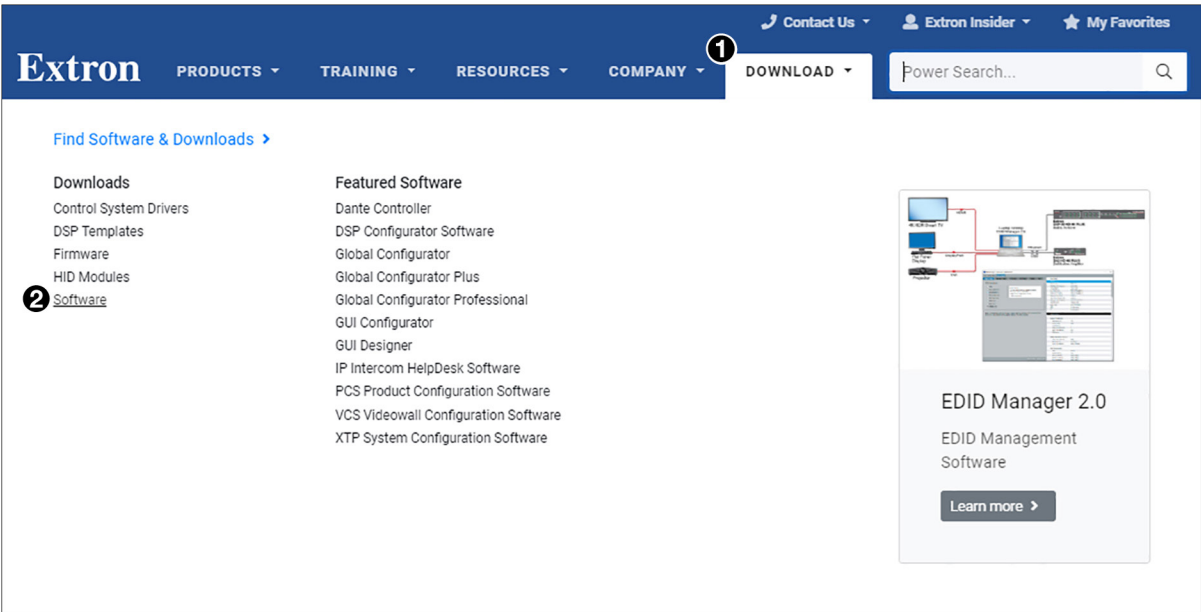

Figure 91. Download Center Page on the Extron Website
1. On the Extron website, select the **Download** tab (see figure 91, **1**, on the previous page).